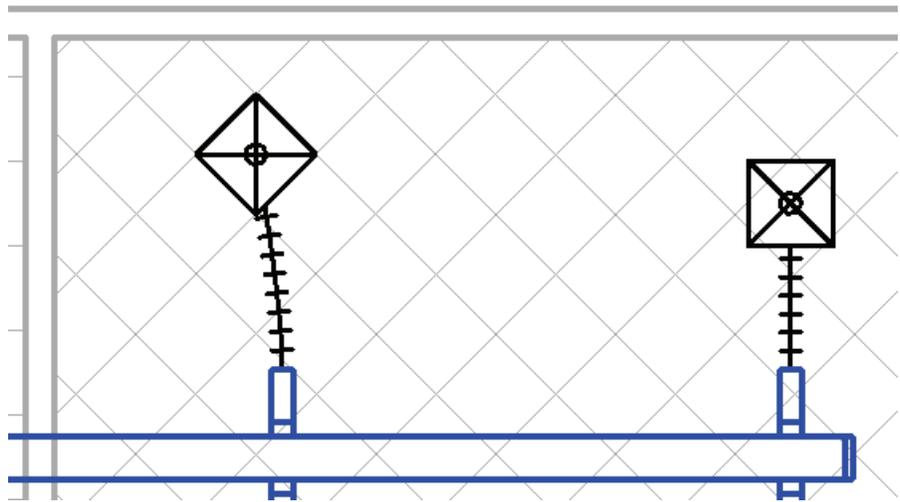

Figure 2–60
13. The flex duct moves with the air terminal as shown Figure 2–60.